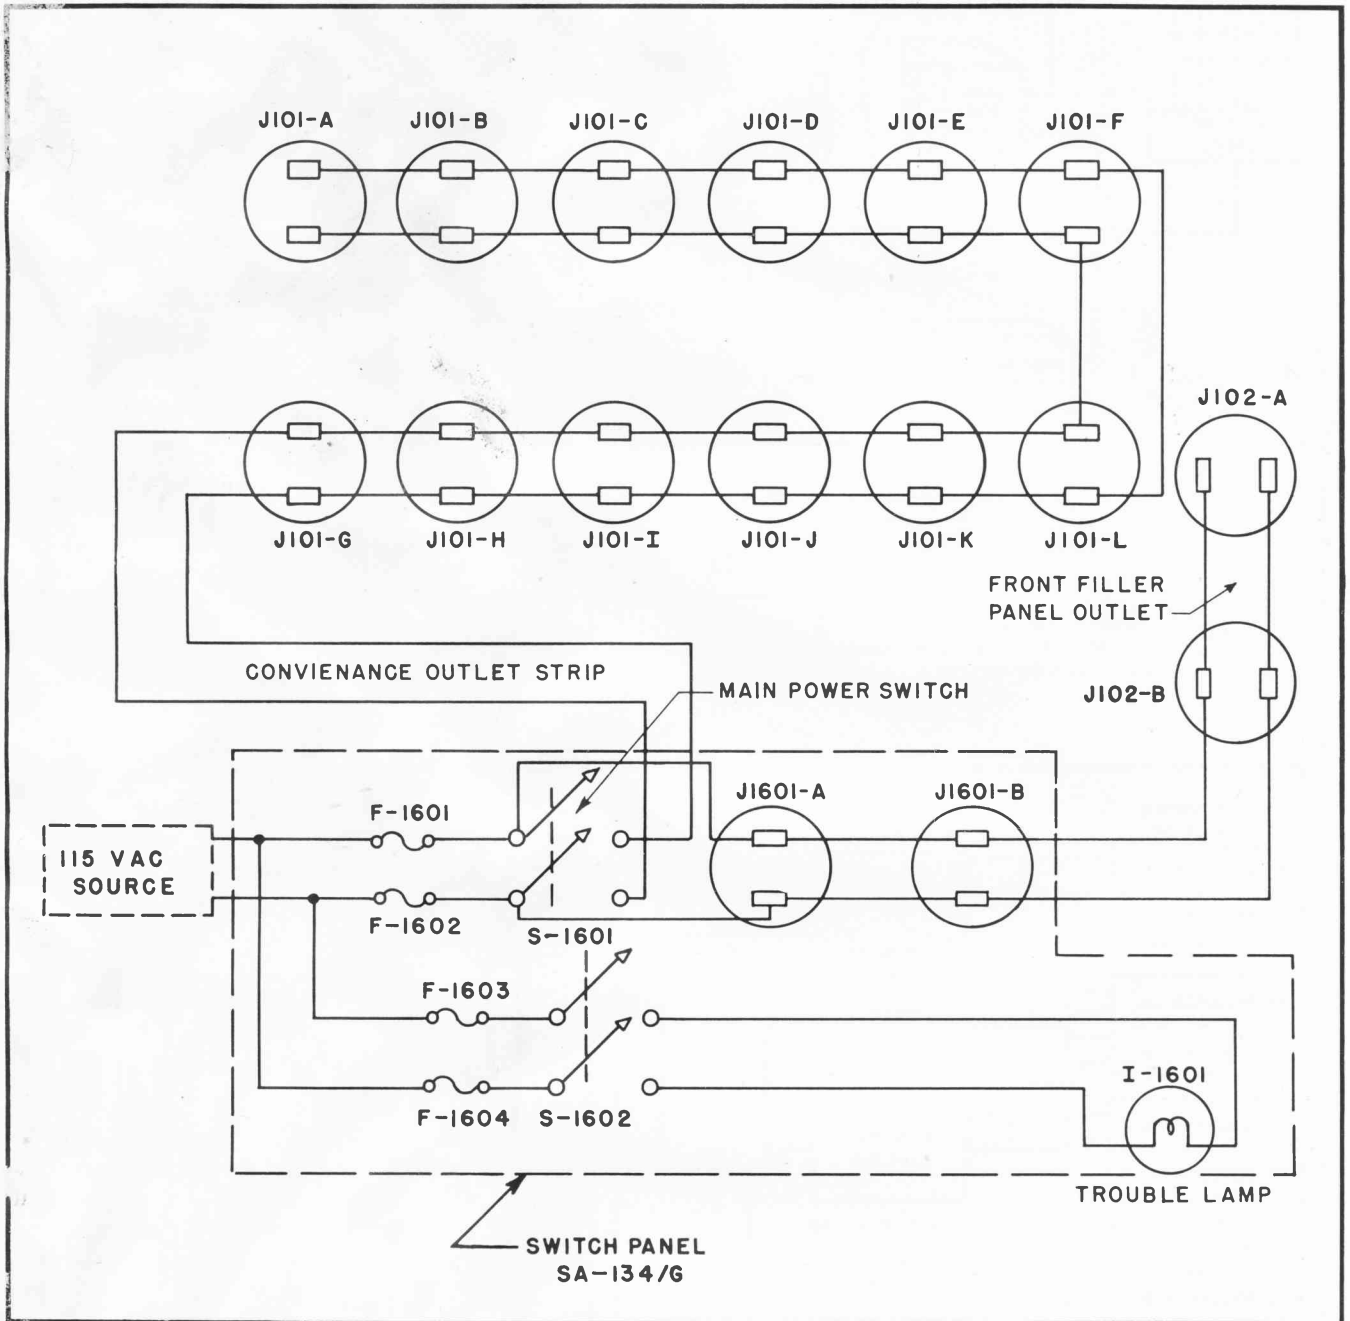

Figure 2-17. Primary Power Distribution
j. PRIMARY POWER CONNECTIONS (Figure 2-17).—The primary power input cable to the cabinets connects into Switch Panel AN Type SA-134/G through a knockout in the bottom for 1/2 or 3/4 inch conduit (conduit not furnished). The normal primary power input is 115 volts AC, 60 cycles. Fuses required are 15 ampere for convenience and strip outlet and one ampere capacity for the trouble light circuit. Supply of 230 v 60 cycles may be used if equipment served within Cabinets is so rated and if 5 amp fuses are used.
(1) CONTINUITY TESTS.—When the cabinet wiring is completed and all interconnections made, each unit should be given a final check before being put in service. This is to insure that the components have been correctly installed and that all wiring connections are complete. A continuity check should be made on each unit with the volt-ohm-milliammeter or a portable device for ringing or lighting out circuits.